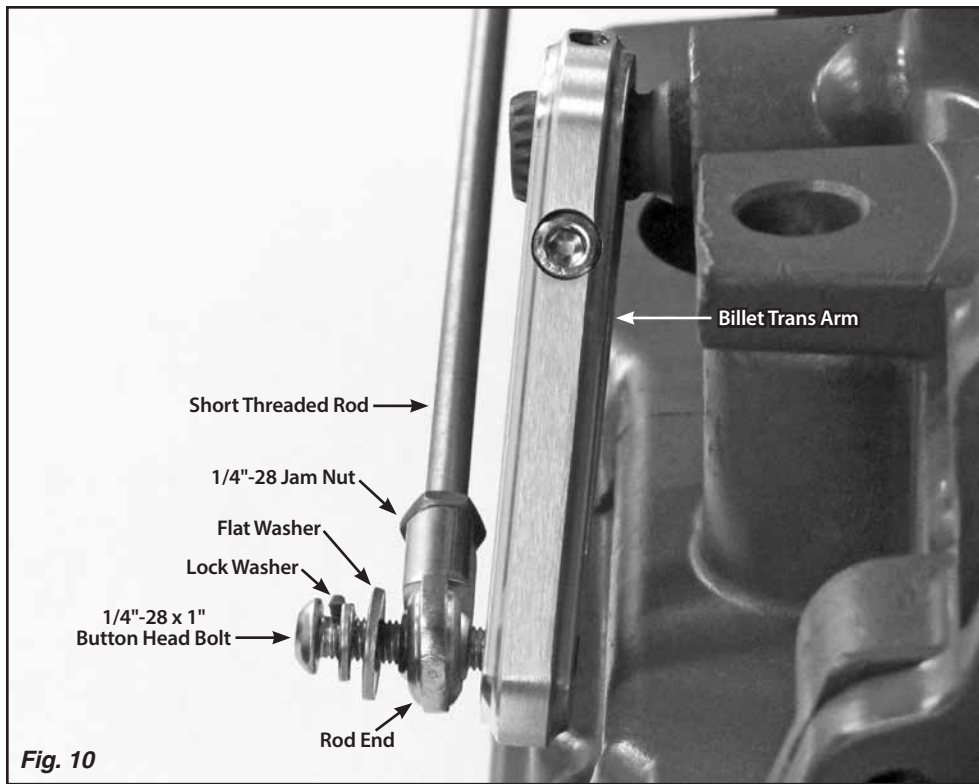

Fig. 10
Step 14: Verify that both 1/4"-28 jam nuts are on the short threaded rod. Thread one end of the short threaded rod into the rod end on the linkage arm, and install a rod end onto the opposite end of the short threaded rod. Attach that rod end to the outside of the billet trans arm using the 1/4"-28 x 1" button head bolt with a lock washer and flat washer as shown in **Fig. 10**.